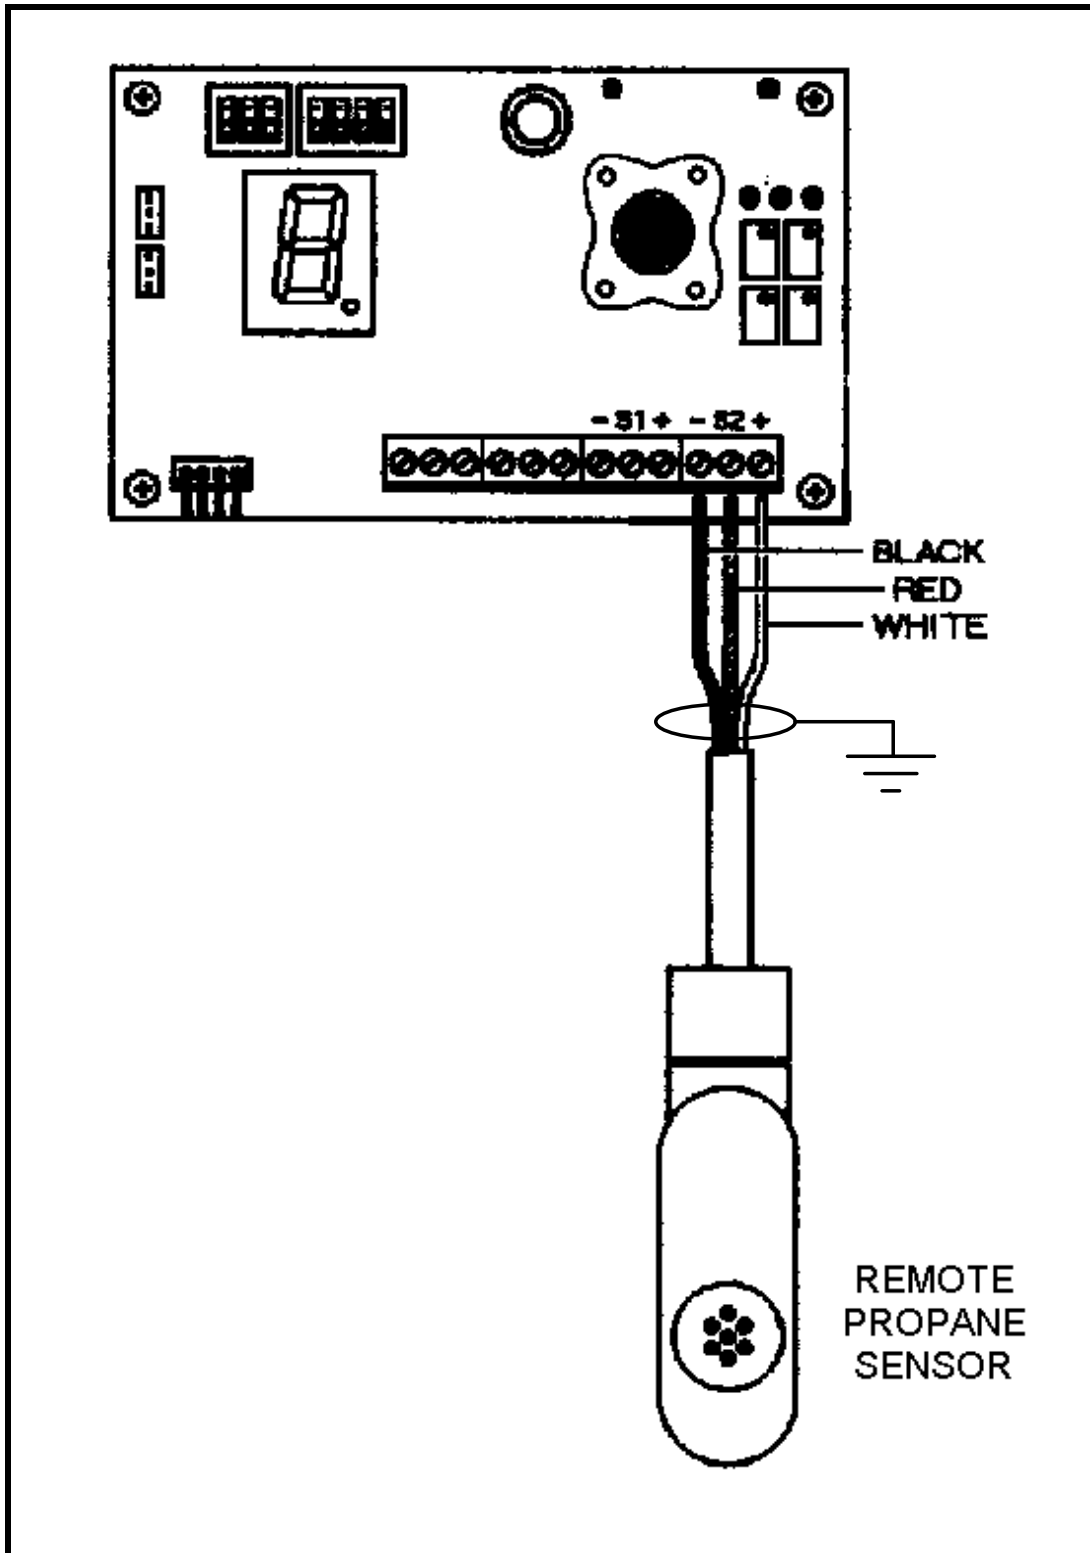

FIGURE 2-4: Wiring of remote sensors and transmitters.
**REMOTE PROPANE SENSOR:**The remote propane sensor connects to a set of sensor terminals (-, S2, +) on the main terminal block located on the circuit card. Refer to FIGURE 2-4.